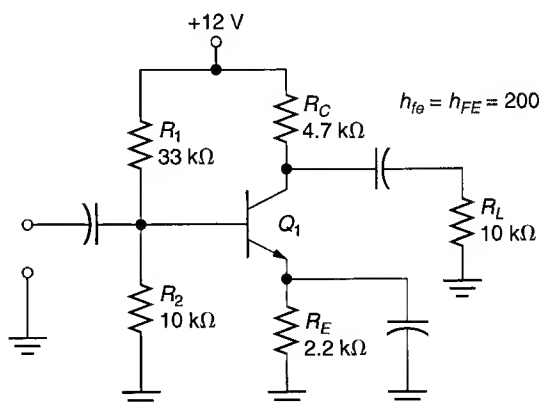

FIGURE 11.6
Determine the output compliance for the amplifier shown in Figure 11.6.
A common-emitter amplifier like the one in Figure 11.6 has the following values: $V_{CC} = 20 \text{ V}$, $R_1 = 10 \text{ k}\Omega$, $R_2 = 1.8 \text{ k}\Omega$, $R_C = 620 \Omega$, $R_E = 200 \Omega$, $R_L = 1.2 \text{ k}\Omega$, and $h_{FE} = 180$. Determine the compliance (PP) of the amplifier.
Solution: In Example 11.1, we determined the compliance of the amplifier to be $PP = 6.08 \text{ V}$. With a $10 \text{ k}\Omega$ load resistance (as shown in Figure 11.6), we can find the maximum value of load power as